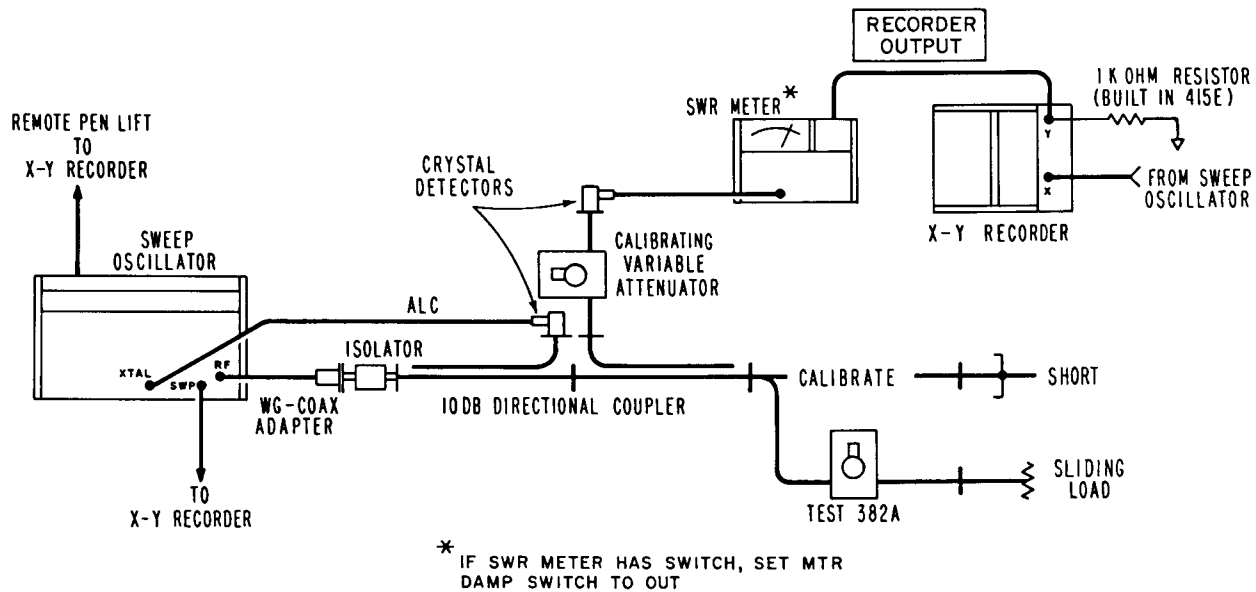

Figure 2 RF Pre-Insertion – Y-Z Recorder Setup for ρ Tests
This test will obtain the SWR by measuring the reflection coefficient and calculating the SWR. Connect the instruments as shown in Figure 2.
1. With the instruments connected as in Figure 2 on page 8, the calibrating attenuator set to 35 dB, and the short connected, run a slow trace. If a moveable short is used, rapidly phase the short while sweeping. The average of the fine grain variation of the trace is the calibration curve.
1. In the setup of Figure 2 on page 8 connect a slotted line and SWR meter between test setup and 382A under test.